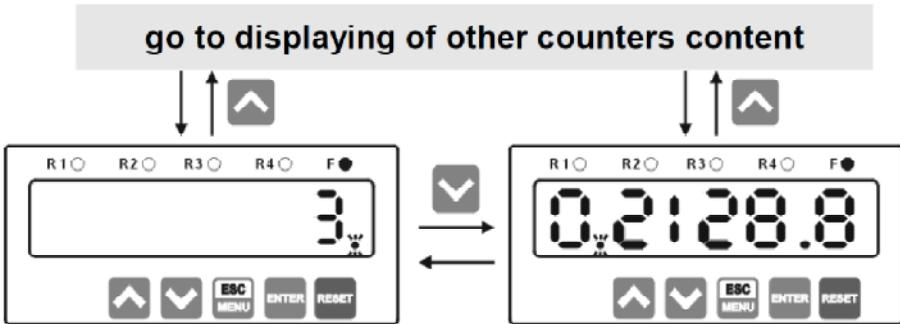

Figure 6.2. Selection between less and more significant half of the totalizer
To change displayed half, press [v] button. When more significant half is showed on the display, it's most right decimal point flashes. Described situation is showed in Figure 6.2:
In Figure 6.2 is showed situation, where totalizer value is equal to 302128.8. Most significant digit (3) must be displayed in more significant half, the rest of the digits can be displayed in less significant half. Because of totaliser's content must be displayed into two halves, zero on left side of less significant half is displayed, and most left decimal point flashes signalling that more significant half is available. Simultaneously right decimal point (between eights) lights constantly, indicating decimal point position.